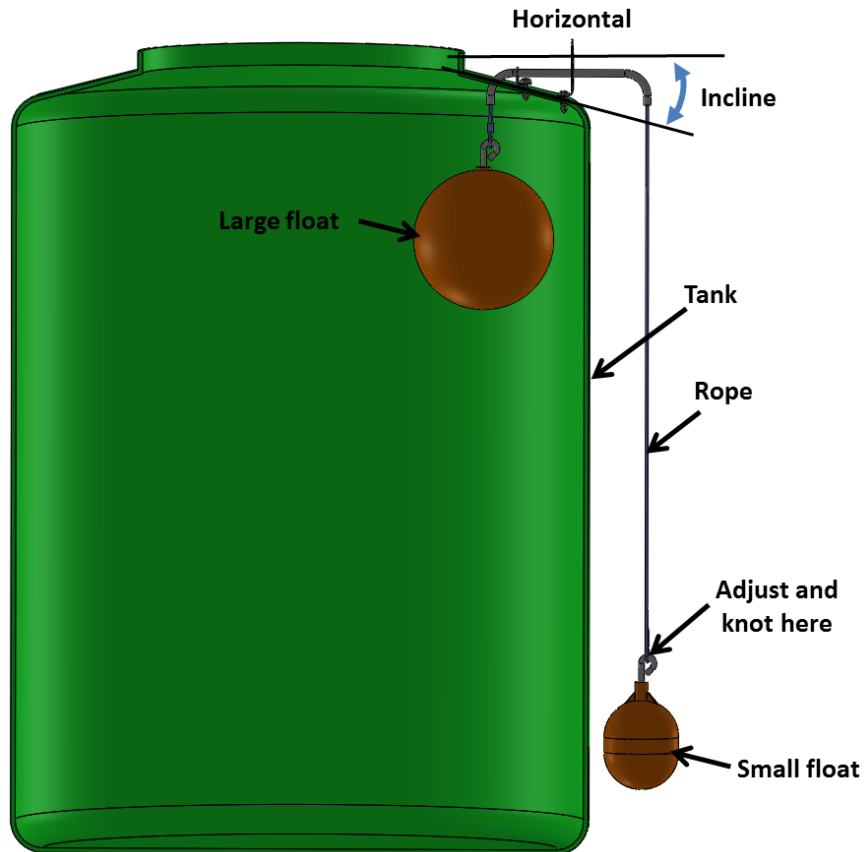
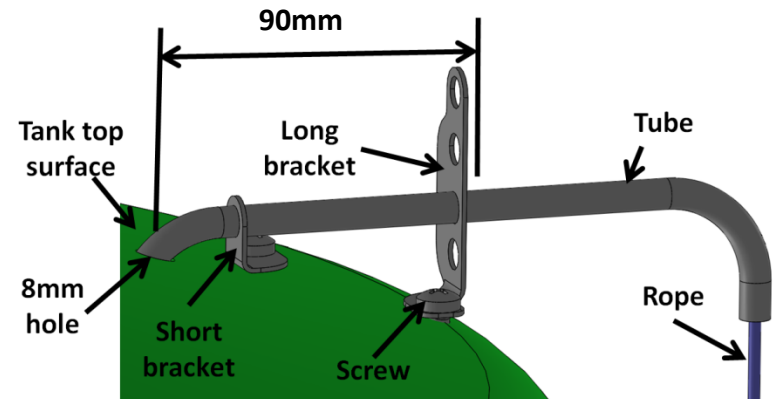

Figure 2: Completed installation
Figure 1: Tube and Bracket installation detail.
Figure 1. **Note that some Tank top surfaces are at an Incline as presented in Figure 2. Two Brackets are supplied, one Short bracket, positioned close to the 8mm hole and one Long bracket, positioned at the Tank edge. To compensate for Tank inclines the Tube should pass through the appropriate hole in the Long bracket to ensure a horizontal Tube section between the brackets as presented in Figure 1.**
- f) Attach/knot the Rope end to the Small float at such a length that when the Large float is at the top of the Tank, the Small float should be at the bottom of the Tank, as presented in Figure 2. Excess Rope can be cut off.